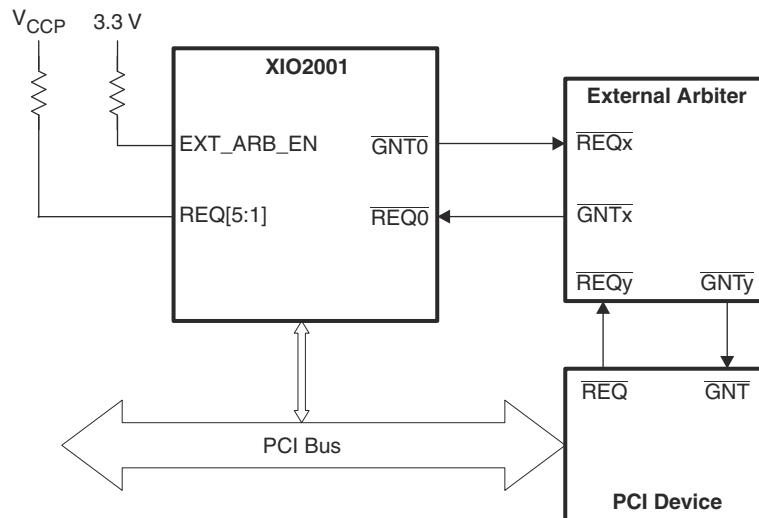

图 9-3. External Arbiter Connections
- The XIO2001 supports an external PCI bus arbiter. When  $\overline{\text{PERST}}$  is deasserted, the logic state of the EXT\_ARB\_EN pin is checked. If an external arbiter is required, EXT\_ARB\_EN is connected to  $V_{\text{DD}_33}$ . When connecting the XIO2001 to an external arbiter, the external arbiter's REQ signal is connected to the XIO2001 0  $\overline{\text{GNT}}$  output terminal. Likewise, the  $\overline{\text{GNT}}$  signal from the external arbiter is connected to the XIO2001 0 REQ input pin. Unused REQ signals on the XIO2001 should be tied together and connected to  $V_{\text{CCP}}$  through a pull-up resistor. When in external arbiter mode, all internal XIO2001 port arbitration features are disabled. 图 9-3 illustrates the connectivity of an external arbiter.